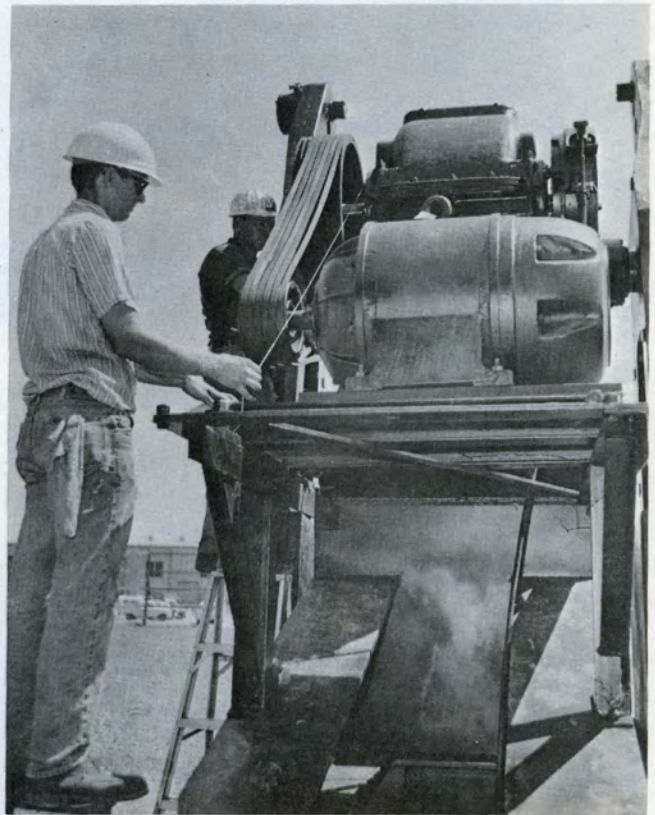

Figure 30
26. Figure 30 - Install and Align "V" Belts